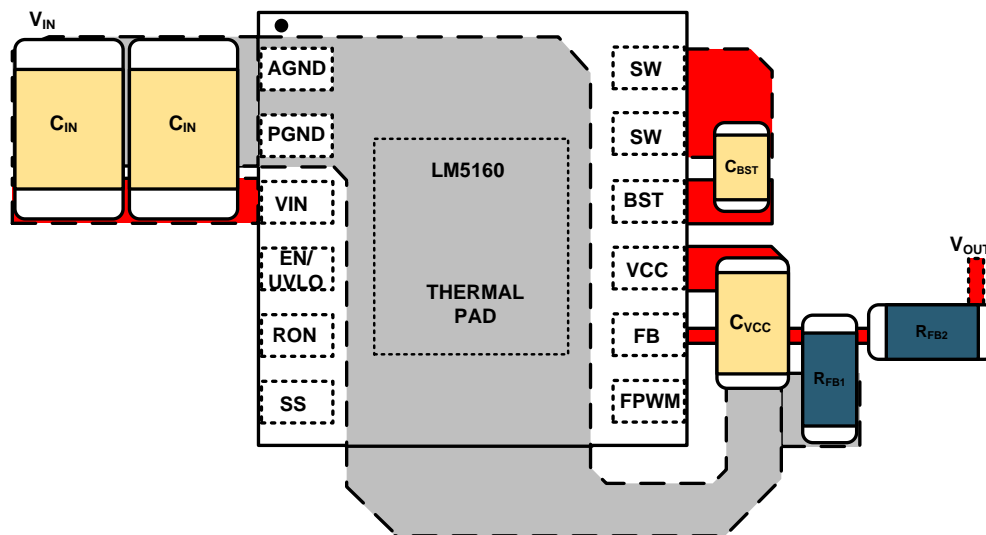

Figure 36. Placement of Bypass Capacitors
- C_{IN} : The loop consisting of input capacitor (C_{IN}), VIN pin, and PGND pin carries the switching current. Therefore, in both the LM5160 and the LM5160A, the input capacitor should be placed close to the IC, directly across VIN and PGND pins, and the connections to these two pins should be direct to minimize the loop area. In general it is not possible to place all of input capacitances near the IC. A good layout practice includes placing the bulk capacitor as close as possible to the VIN pin (see Figure 36).
- C_{VCC} and C_{BST} : The VCC and bootstrap (BST) bypass capacitors supply switching currents to the high and low side gate drivers. These two capacitors should also be placed as close to the IC as possible, and the connecting trace length and loop area should be minimized (see Figure 36).